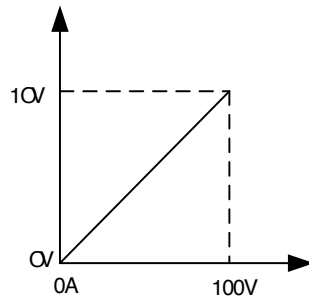

Figure 5-16 Corresponding relation of real-time voltage feedback
2. Corresponding relation of real-time voltage feedback is shown in Figure 5-16.